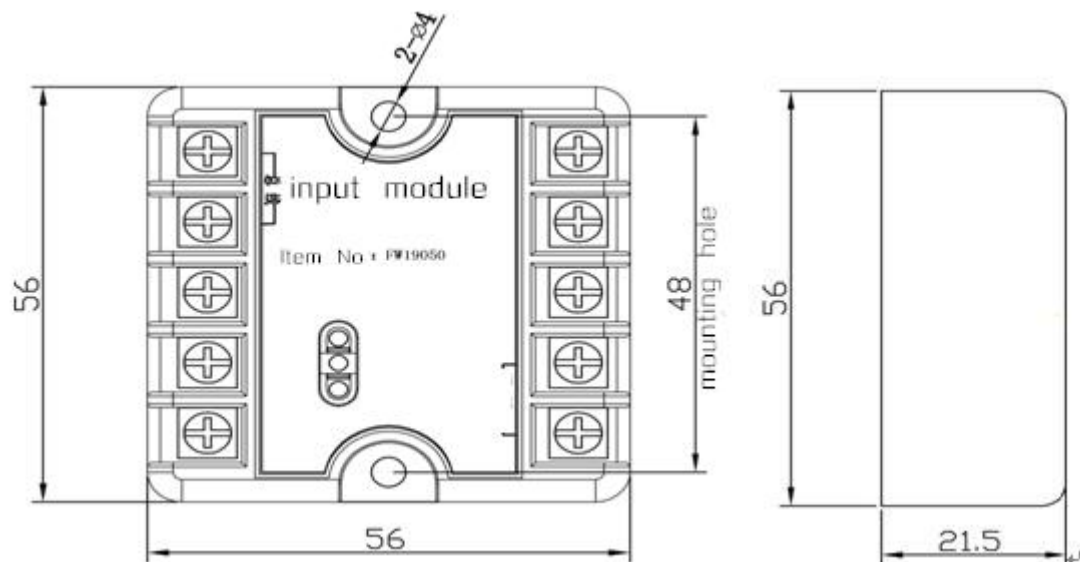

Figure 1 Dimensions and installation dimensions
1. Module's Dimensions and installation dimensions shown in Figure 1